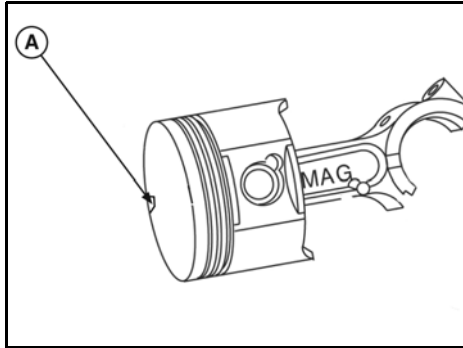

Figure 8
**NOTE:** For Vertical Model 120000 ONLY, install piston with notch or arrow (**A**, Figure 8) facing away from “MAG” on the rod. When installed in engine, the notch will face the PTO.